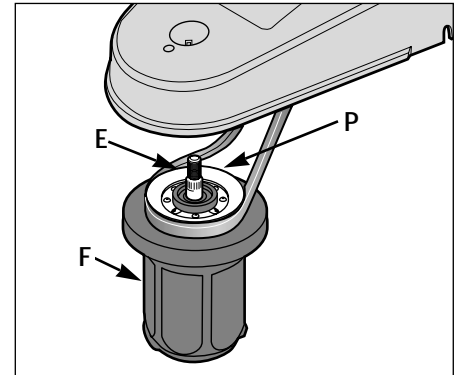
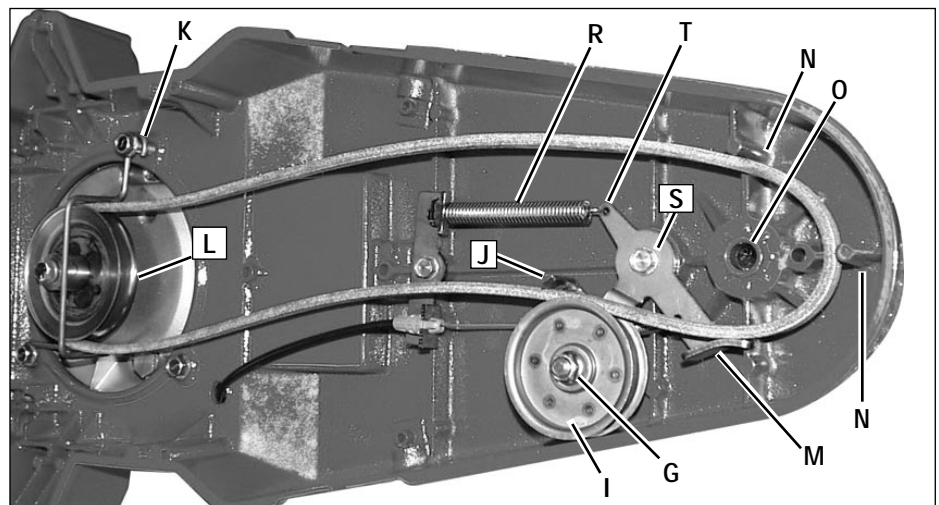

Figure 5-5
Figure 5-6
8. Remove the nut from the spindle shaft and then remove the spindle shaft (E, Figure 5-5) and entire spindle head assembly (F) from the bottom of the deck. Slip the belt off the spindle head pulley (P).
9. Disconnect the idler arm spring (R, Figure 5-6) from the hole in the idler arm (T).
10. Using a 1/2" wrench, loosen the idler arm mounting screw (S, Figure 5-6) two full turns.
11. Using a 9/16" wrench and a 7/32" hex (Allen) wrench, loosen the mounting nut (G, Figure 5-6) and screw on the idler pulley (I) a few turns, or until belt is free to slip out between pulley and belt guide (J). Remove belt.
12. Loosen rear belt guide screw (K, Figure 5-6) enough to allow belt to be removed from engine pulley (L). Remove belt from unit.
1. Install belt on engine pulley (L, Figure 5-6) and retighten rear belt guide screw (K) securely.
2. Route belt between idler pulley (I, Figure 5-6) and belt guide (J), to inside of brake arm (M), and next to die-cast belt guides (N).
3. Securely tighten the mounting nut (G, Figure 5-6) and screw in the idler pulley (I).
4. Securely tighten the idler arm mounting screw (S, Figure 5-6). After tightening, check that idler arm is free to rotate. If not, remove idler arm and check for debris that may be interfering with freedom of movement.
5. Look at the spindle head mounting hole (O, Figure 5-6) and note the grooves that are cut into the inner sides of the hole. These grooves were formed by the splines on the spindle shaft (E, Figure 5-5).
6. Install the belt on the spindle head pulley (P, Figure 5-5) and insert the spindle shaft (E) (with attached spindle head assembly) into the spindle head mounting hole (O, Figure 5-6). Rotate the spindle head assembly to align the splines on the spindle shaft with the grooves in the mounting hole. Check that the belt is still in the pulley groove and is to the inside of the die-cast belt guides (N, Figure 5-6).
10. Reattach the idler arm spring (R, Figure 5-6) in the hole in the idler arm (T).